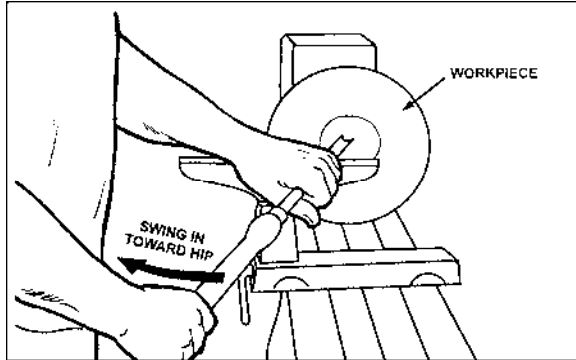

Figure 39
5. Place 1/2" bowl gouge on tool support at center of the workpiece with the flute facing top of bowl. The tool handle should be level and pointed toward the four o'clock position, as shown in Figure 39.